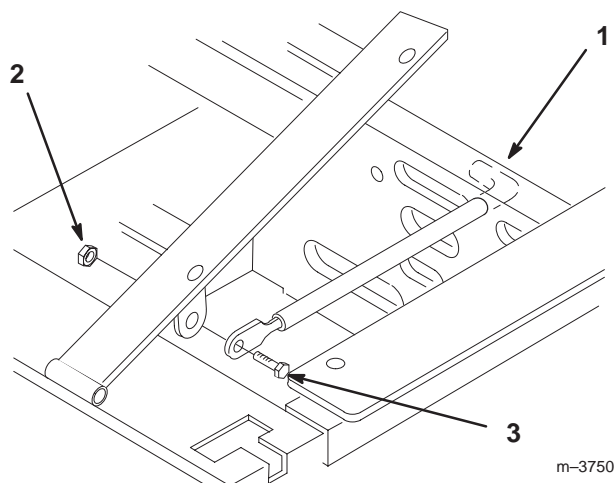

Figure 3
1. Tilt seat up. Remove 5/16" (8mm) locknut from bolt attaching seat retaining rod to seat frame (Fig. 3).
2. Remove retaining rod from seat and insert the “L” shaped end of the rod into the hole directly above the left-side hydraulic pump (Fig. 3).
3. Place the seat retaining rod to the outside of the mounting tab of the seat frame and secure with 5/16-18 x 1” (26 mm) bolt and 5/16” (8mm) locknut (Fig. 3).